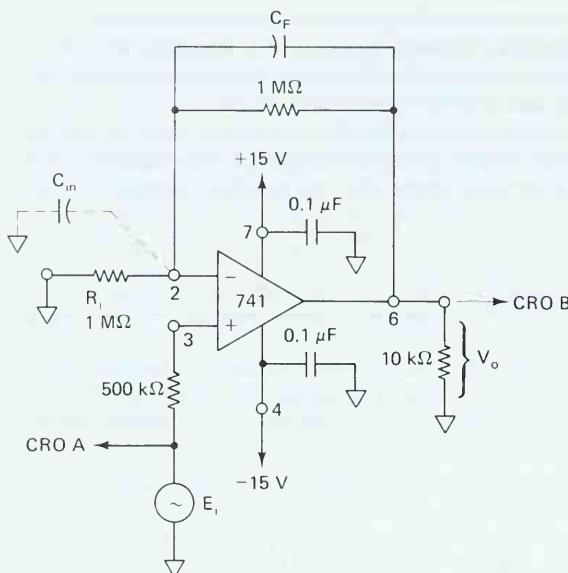

FIGURE LE10-1
The reason for this apparent failure of the theory is that the equations did not include the effect of unpredictable input capacitance. Any time two conductors are separated by an insulator, a capacitor is formed. Therefore, capacitors exist between the (–) input and (1) ground, (2) all op amp terminals, (3) all component leads, and (4) breadboard terminals. The net capacitance from (–) input to ground acts as if you connected a 10 - to 15-pF parasitic capacitor across R_i ; see Fig. LE10-1. (Note in the figure that parasitic capacitance C_{in} is present from (–) in to ground. X_{Cin} shunts R_i and increases gain for frequencies above 10 to 30 kHz . The cure is to add C_f .)
2. Bypass the op amp supply pins with 0.01- to $0.1\text{-}\mu\text{F}$ disk capacitors as shown in Fig. LE10-1. (Then try 1- to $10\text{-}\mu\text{F}$ tantalums.)